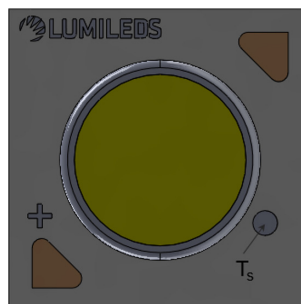

Figure 4.  $T_s$  point of LUXEON CX Plus CoB. The tip of TC wire is secured here.
To calculate the average LUXEON CoB junction temperature, use a small gauge (AWG 40 or AWG 36) thermocouple (TC) wire and attach it to the  $T_s$  point as shown in Figure 4. Note that  $T_s$  location and value are identical to  $t_c$  as defined in IEC 62031 standard. A recommended thermal adhesive glue such as Artic Silver AATA-5G (two component epoxy) is used to secure the TC wire to the  $T_s$  point. Apply sufficient amount of adhesive to hold the TC wire in place but not excessive to allow proper attachment of the CoB holder. Note that to route the TC wire to the outside of the holder, a small modification to the holder may need to be made first (Figure 5). Power-up the LED module system under the desired operating condition and installation setup, allow enough time for the system to reach thermal equilibrium and record the max  $T_s$  temperature.